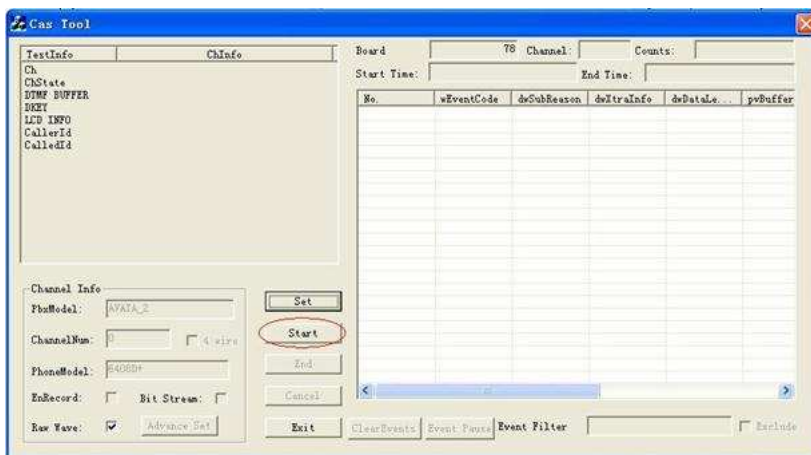

Figure 2-25
Step 5: Click on the 'Start' button as shown in Figure 2-25.